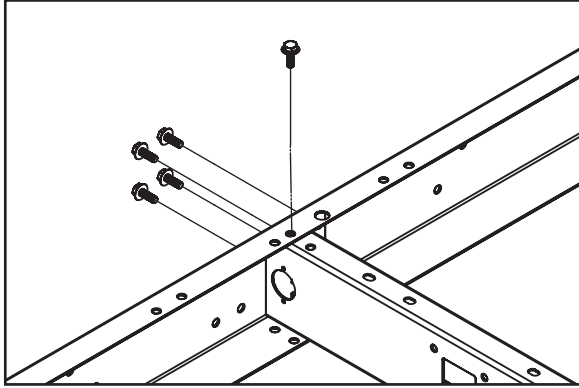

Fig. 5
Step 9: Bolt the Mid-Cross Beam (#4) at the center of the Long Rail Beam (#6). Place the Mid Cross Beam (#4) at the center of the Long Rail Beam (#6) as shown (Fig. 5) and fasten loosely in place using five M10 x 30mm bolts (#1) and M10 Nuts (#2).